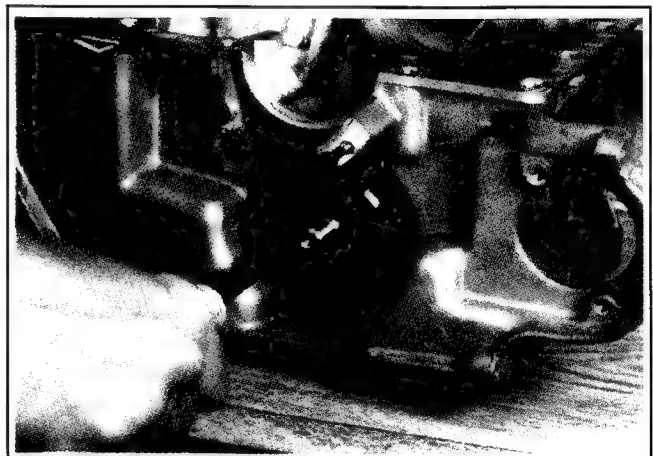

Figure 11-11. Securing Oil Pump Cover to Crankcase.
3. Secure the oil pump cover to the lower crankcase with the three hex. flange screws. Tighten these to **7.3 N·m (65 in. lbs.)** torque. See Figure 11-11.